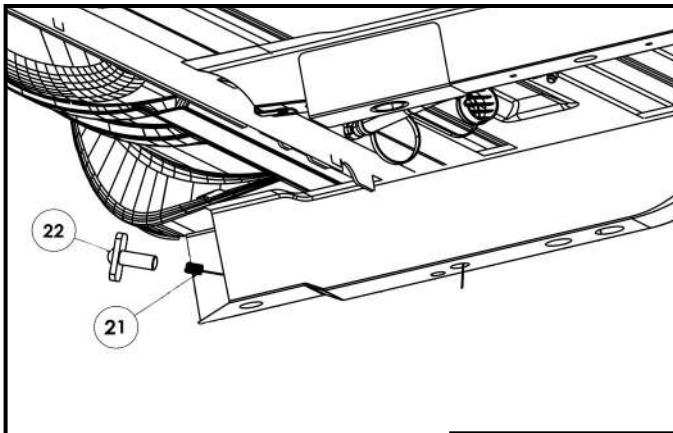

Figure 3
5. Locate the supplied M12 bolt plate (item 22) and M12 fish wire (item 21), and guide the bolt plate through the specified holes on the bed rail located underneath the truck closest to the front of the bed. **See Figure 3**